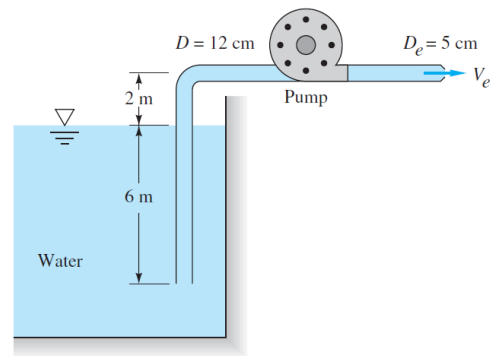

Fig. 3.26
3.26 When the pump in Fig. 3.26 draws 220 m³/h of water at 20°C from the reservoir, the total friction head loss is 5 m. The flow discharges through a nozzle to the atmosphere. Estimate the pump power in kW delivered to the water.